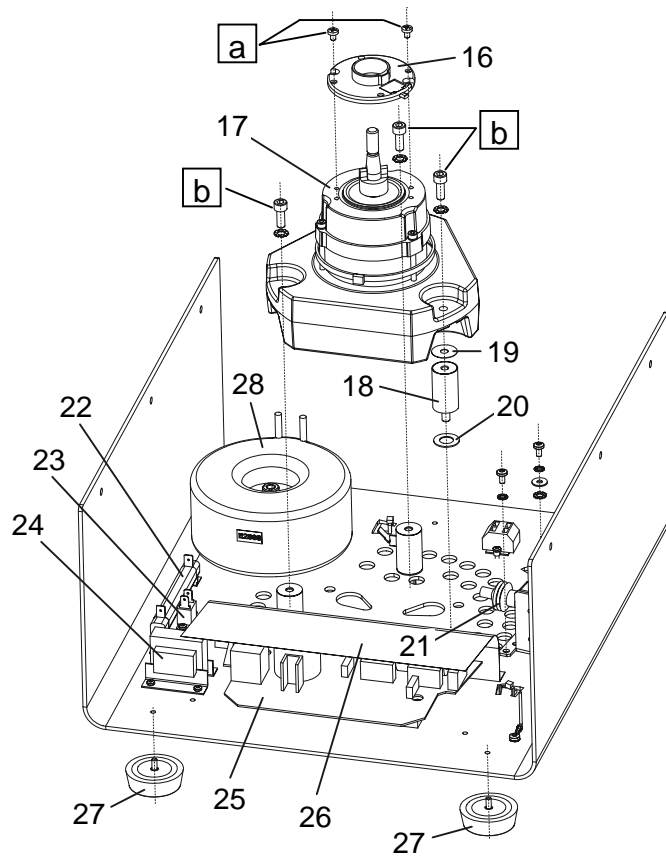

Fig. 3
- Pull the plug S502 on the power board (Fig. 3, item 25), see chapter "Connecting diagrams".
- Remove the fixing of the speed sensor cable at the motor (Fig. 3, item 17).
- Remove both fastening screws (Fig. 3, a) of the speed sensor (Fig. 3, item 16) and exchange the speed sensor.
- Remove both fastening screws (Fig. 3, a) of the speed sensor (Fig. 3, item 16).
- Pull the plug S401 on the power board (Fig. 3, item 25), see chapter "Connecting diagrams".
- Use a socket spanner to loosen and remove the three fastening screws (Fig. 3, b) on the lower end plate of the motor.
- Lift the motor (Fig. 3, item 17) upwards out of the centrifuge and unplug the ground wire.
- Before the motor is installed, the three rubber-metal bearings (Fig. 3, item 18) must be checked for possible wear or cracks. These items must be replaced if necessary.
- Care must be taken of the anti-twist devices (Fig. 3, item 19 and 20) when the rubber-metal bearings or the motor are installed.
- Pull all plugs on the power board (Fig. 3, item 25), see chapter "Connecting diagrams".
- Unplug the flat ribbon cable from the power board (Fig. 3, item 25).
- Unplug the two cables from the brake resistor (Fig. 3, item 22).
- Unplug the two cables from the overtemperature fuse (Fig. 3, item 23).
- Pull the plug S503 on the power board (Fig. 3, item 25), see chapter "Connecting diagrams".
- Loosen the two cables at the imbalance switch (Fig. 3, item 21).